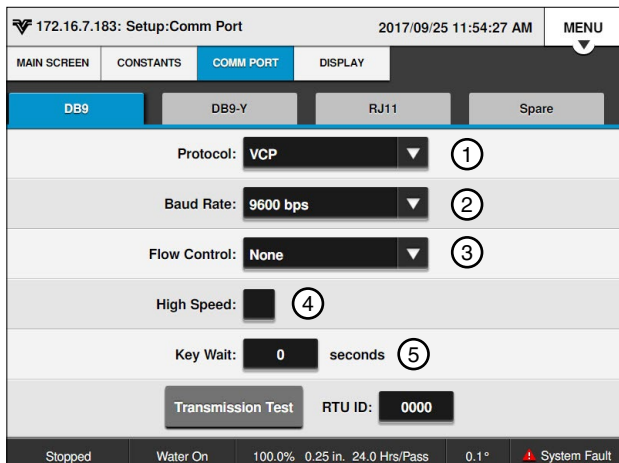

Figure 44-1 DB9 Comm Port Screen
To enable the High Speed Key Wait time, check the **High Speed** checkbox. Refer to Figure 44-1.
1. Select the **Key Wait** field for the Comm Port. Refer to Figure 44-1.